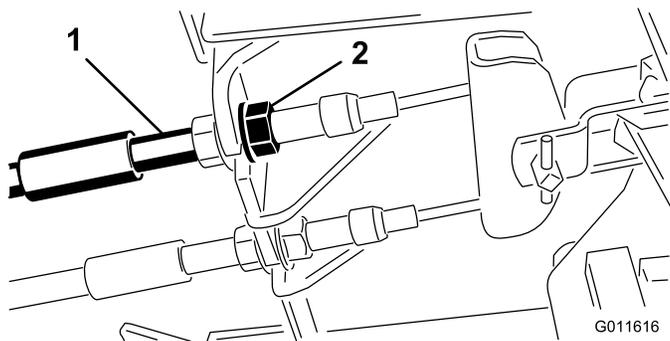

Figure 68
1. To reduce free travel of the brake pedals, tighten the brakes by loosening the front nut on the threaded end of the brake cable (Figure 68).